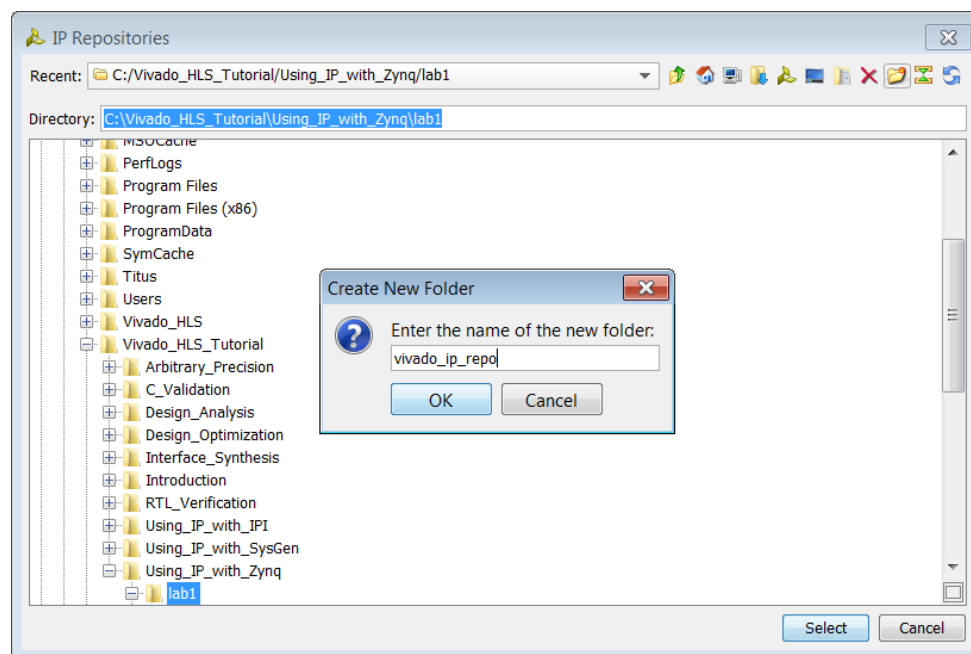

Figure 223: IP Repository
- b. Enter "vivado_ip_repo" in the resulting dialog (**Figure 223**).